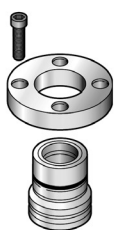

Figure 3-1
- Unitized, threadless assembly is pilot-fitted into the head on a precision bored diameter to assure true concentricity (See Fig. 3-1)